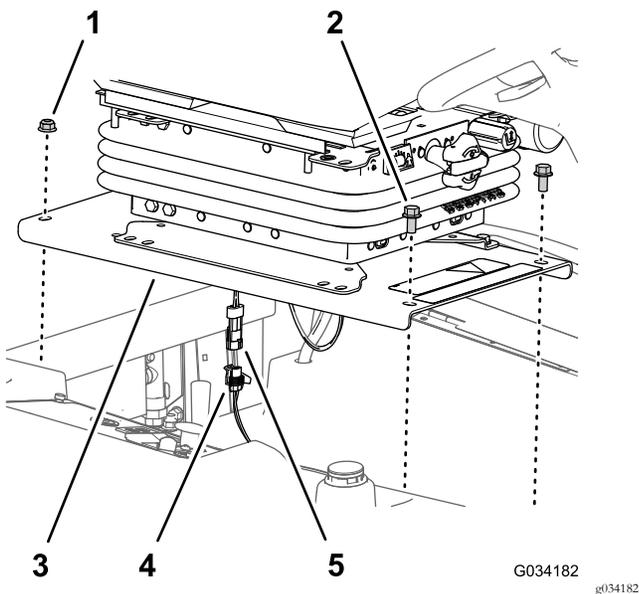

Figure 35
1. Remove the 2 flange-head bolts (3/8 x 3/4 inch) at the that secure the front of the seat plate to the chassis of the machine (Figure 35).
2. Remove the 2 flange locknuts (3/8 inch) at the that secure the back of the seat plate to the chassis of the machine (Figure 35)
4. Disconnect the 2-pin connector for the operator-presence switch harness from the 2-socket connector of the wire harness for the machine (Figure 35).
2. Connect the 2-pin connector for the operator-presence switch harness into the 2-socket connector of the wire harness for the machine; refer to Figure 35 .
3. Align the rear holes in the seat plate (Figure 35) with the 2 carriage bolts (3/8 x 1 inch) in the radiator channel.
4. Assemble the seat plate (Figure 35) to the carriage bolts with the 2 flange locknuts (3/8 inch) that you removed in step 2 of Removing the Seat and Seat Plate (page 40).
5. Align the front holes in the seat plate (Figure 35) with the threads of the tank rods.
6. Assemble the seat plate (Figure 35) to the tank rods with the 2 flange-head bolts (3/8 x 3/4 inch) that you